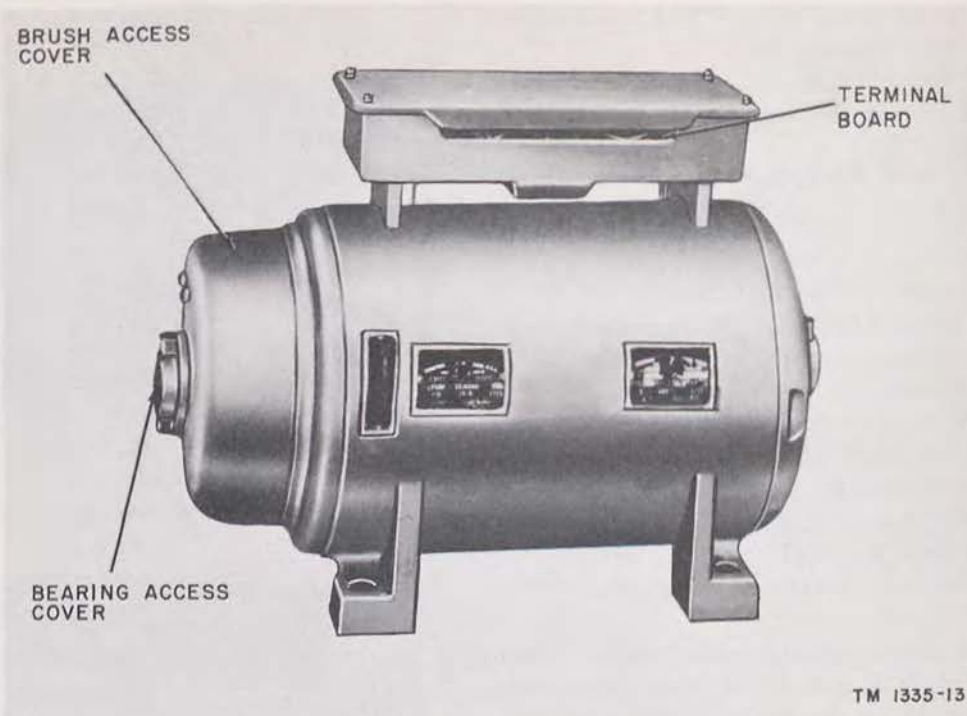

Figure 8. Motor generator.
c. *Motor Generator* (fig. 8). The supply voltage is applied through the motor starter to the motor generator. The motor generator converts the input voltage to an output voltage of 115 volts